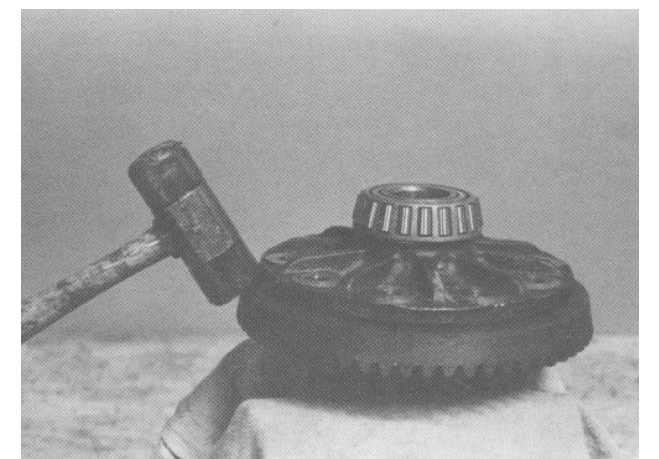

Figure 22
4. Remove the ring gear cap screws. Using a hard wooden block and a hammer, drive the ring gear off of the differential case. Be prepared to protect the ring gear when removing it from the differential case; this will avoid damage of the ring gear teeth (Fig. 22).